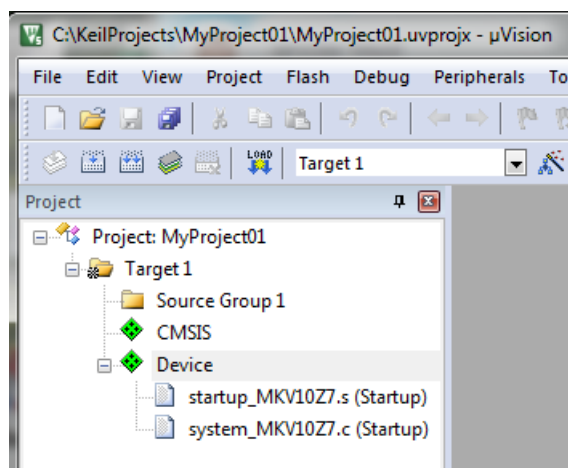

Figure 1-31. Project
- Click OK, and a new project is created. The new project is now visible in the left-hand part of Keil μ Vision. See Figure 1-31.